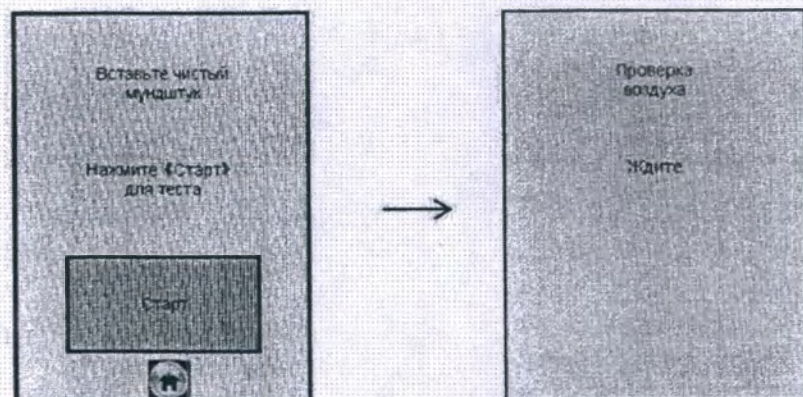

Figure 15 – Beginning of the measurement procedure
2.8.8 When the data in all fields has been entered, a window with the message "Insert a clean mouthpiece" will appear on the screen (Figure 15, left).
When you press the “Start” button, an air sample is taken to automatically check for the absence of ethanol and other components that may affect the analyzer readings in the ambient air, in the analyzer intake system and in the mouthpiece (Figure 15, right):